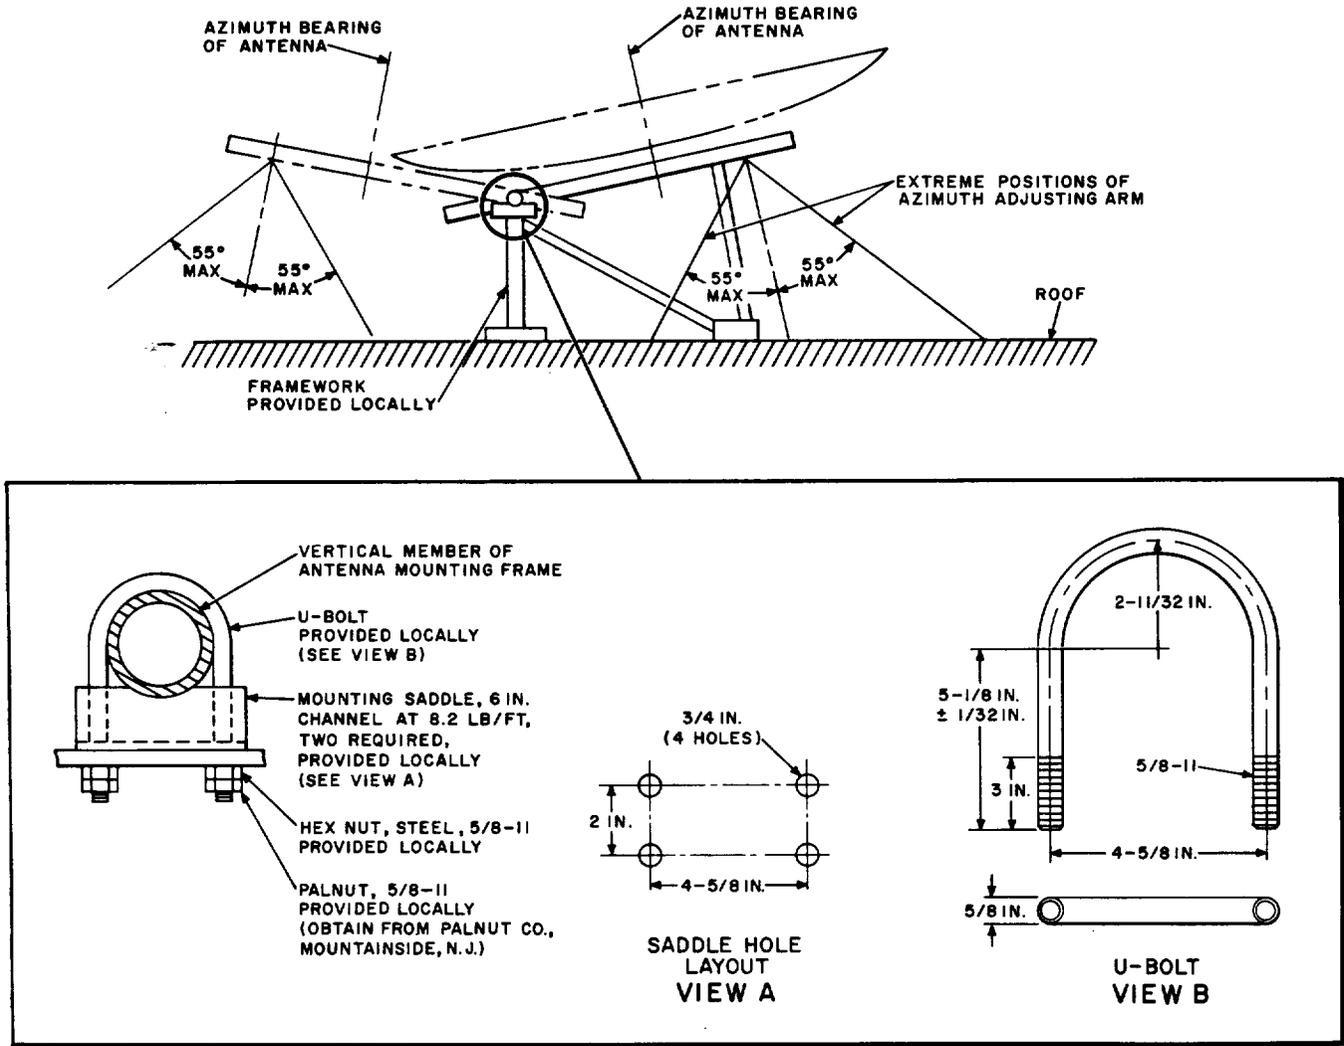

Fig. 18—Antenna Installation on Roof
5.28 Roof mounting of the antennas has not been standardized and detailed information will not be given in this section. Reference should be made to the typical installations described in the preceding paragraphs for general mounting information. This data may be revised and adapted by local supervision to meet the requirement of a given site. See Fig. 18 for general installation procedures.